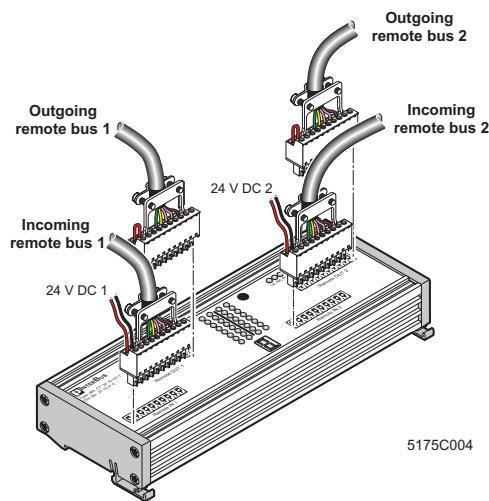

Figure 5 Positions of remote bus connectors
- Plug the connector into the corresponding terminal strips with the keying tabs facing downwards (Figure 5). Remote IN designates the incoming remote bus, remote OUT the outgoing remote bus. The supply voltage U_L for the module electronics must be supplied through terminals 1 (U_L+) and 2 (U_L-) of the REMOTE IN connector.